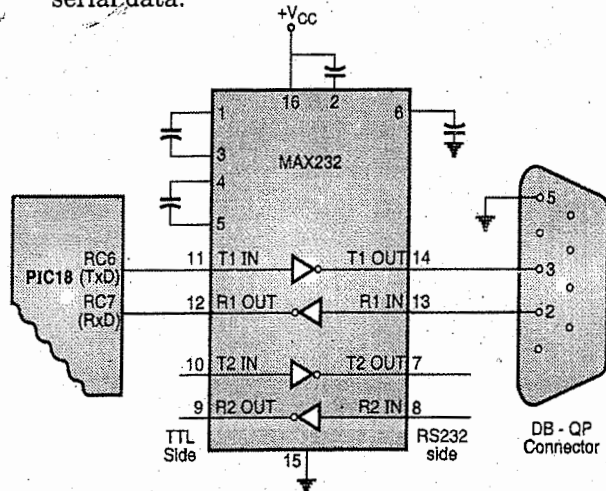

Fig. 12.11.1 : PIC18 connection to RS232 (Null modem)
- Fig. 12.11.1 shows the connection of PIC18 to the RS232.